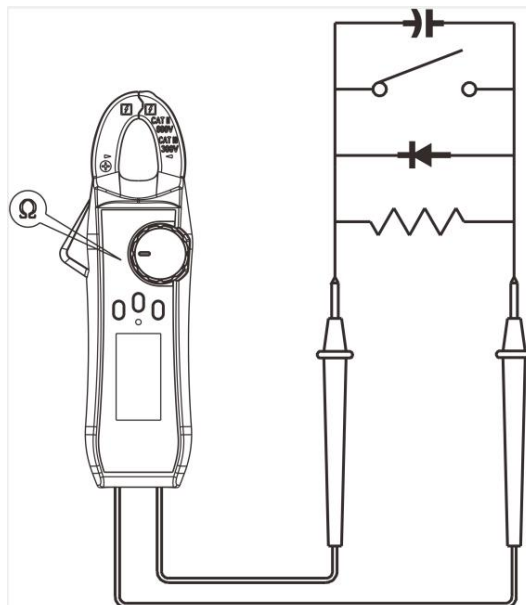

Figure 7
- Connect the probes to the tested part for measurement (Figure 7)
**⚠** When the instrument is switched to resistance/ continuity /capacitance/diode function, the input voltage cannot be higher than 60V (DC) or 30V (AC) to guarantee personal safety.